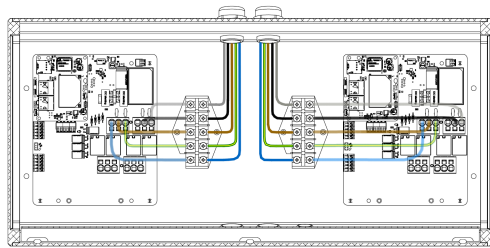

Fig. 23: Electrical connection executed correctly.
1. Connect the device to the dedicated socket on the PilotBox board. [Fig. 23]